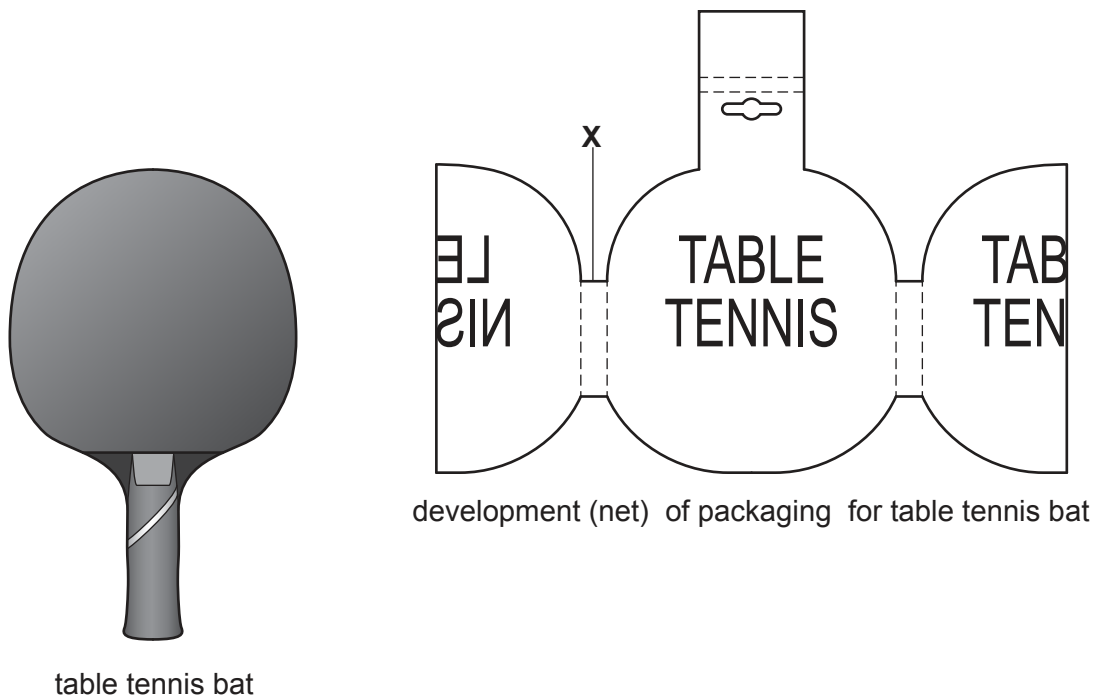

Fig. 5.1
- 5 Fig. 5.1 gives details of the packaging for a table tennis bat. The development (net) is folded into shape to make the packaging.